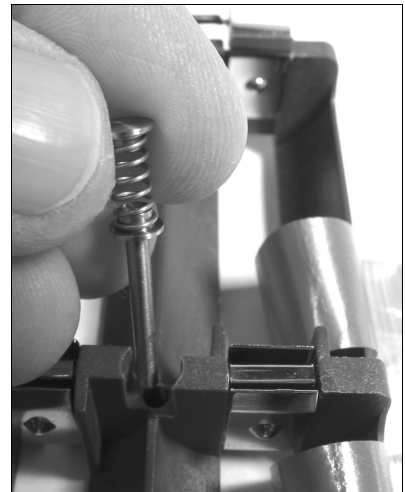

Fig. 6. For corner mounting only: Rear Tamper Plate.
3. Insert Rear Tamper Actuator into hole in center of battery holder as shown in Fig. 6.